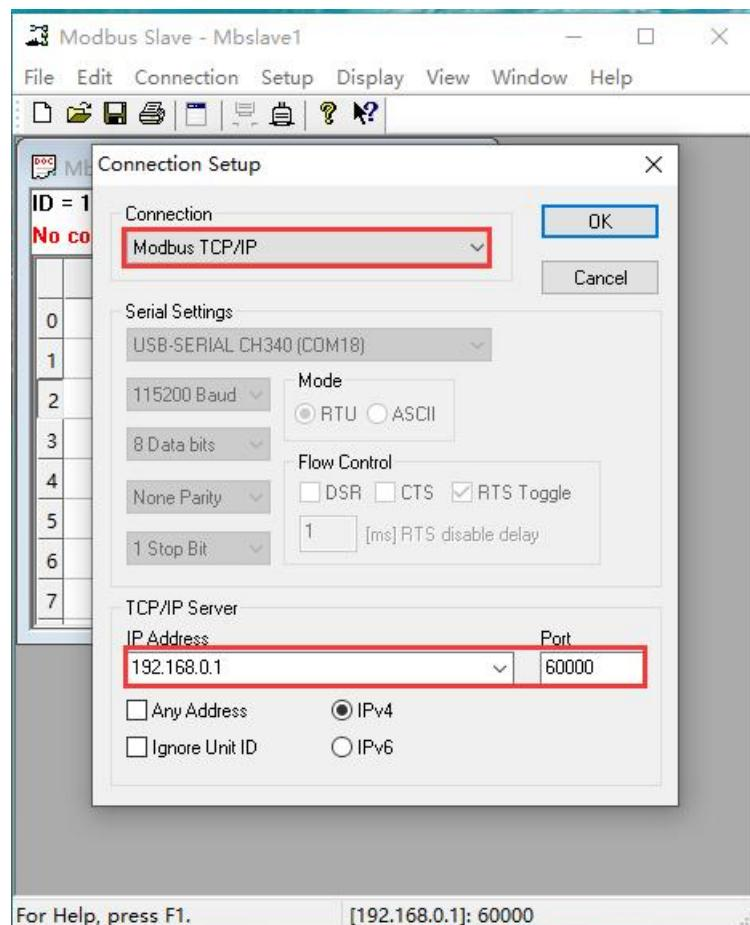

Figure 6-33 MODBUS \_ TCP parameter setting of slave software
- 6) Select the TCP/IP mode, and the IP address and port are consistent with the settings of the computer, as shown in Figure 6-33.